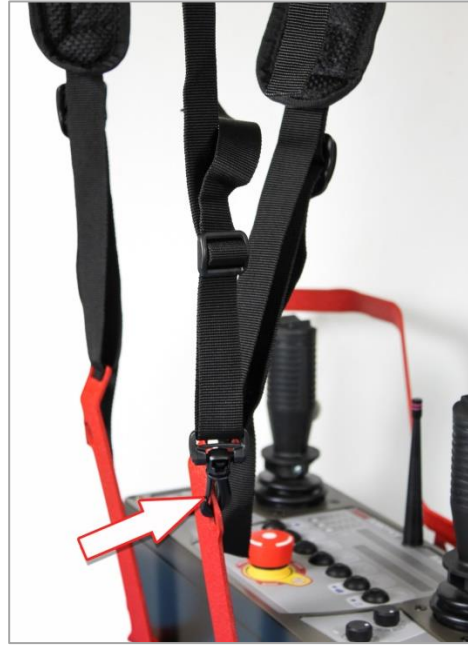

Figure 14: Attach left clip to right attachment point.
2. Cross the left back strap behind the harness and clip it to the right side attachment point (see Figure 14).